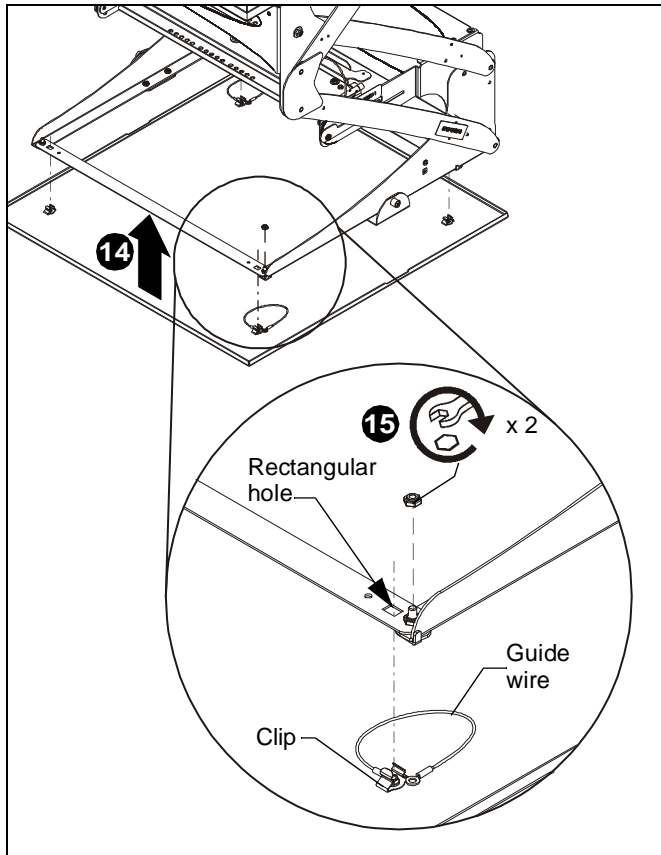

Figure 9
14. Re-install four clips on ceiling panel into rectangular holes on SL236SPi. (See Figure 9)
15. Reattach guide wires (two places) to SL236SPi, using nuts removed earlier in Step 1 of **Installing in a Suspended Ceiling** section. (See Figure 9)